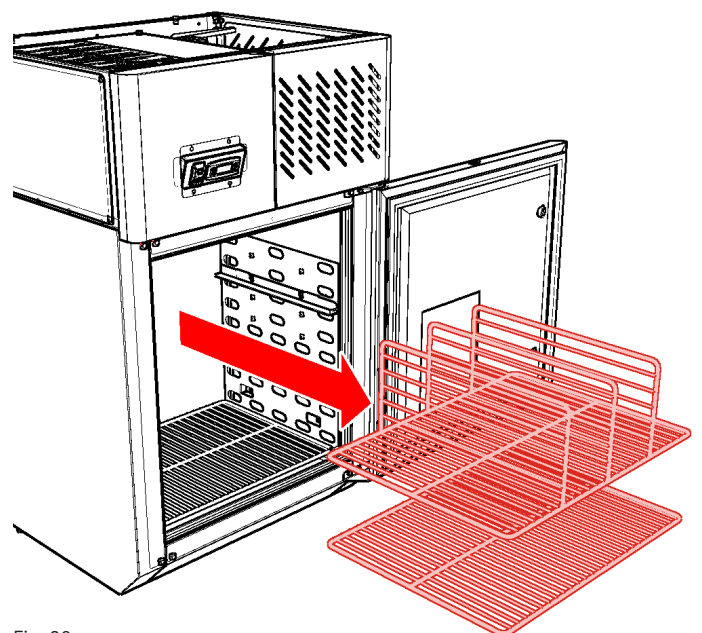

Fig. 28
1. Remove wireform shelves from shelf mounting brackets, located on either side of freezer compartment interior (Fig. 28). Wash, rinse, and sanitize shelves, and allow to dry.